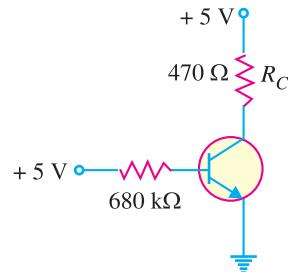

Fig. 8.71
10. Draw the d.c. load line for Fig. 8.71.
11. If the collector resistance  $R_C$  in Fig. 8.71 is increased to  $1\text{k}\Omega$ , what happens to the d.c. load line?